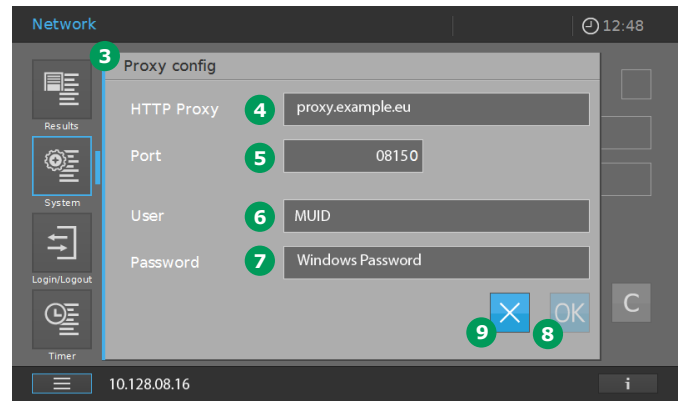

Figure 25 - Proxy configuration menu of the Prove
3. The Proxy config menu opens **3** (Figure 25). By pressing the entry field the keyboard appears to set the following parameters: HTTP Proxy **4**, Port **5**, User **6** and Password **7**. By pressing the "OK" button **8** the parameters are stored in the instrument and the menu closes. By tapping the "X" button **9** all parameters are discarded and the menu closes.